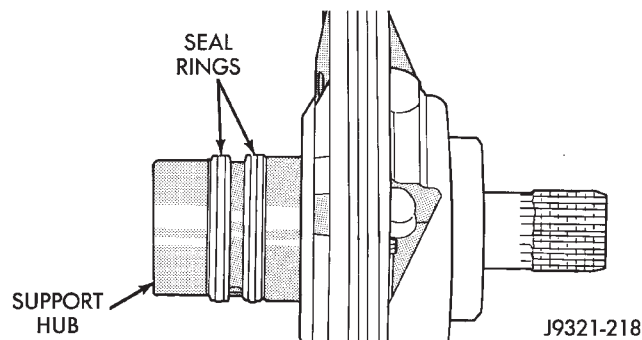

Fig. 146 Hub Seal Ring Position
(6) Install new thrust washer on hub of reaction shaft support. Lubricate washer with transmission fluid or petroleum jelly.
(7) If reaction shaft seal rings are being replaced, install new seal rings on support hub (Fig. 146). Lubricate seal rings with transmission fluid or petro-